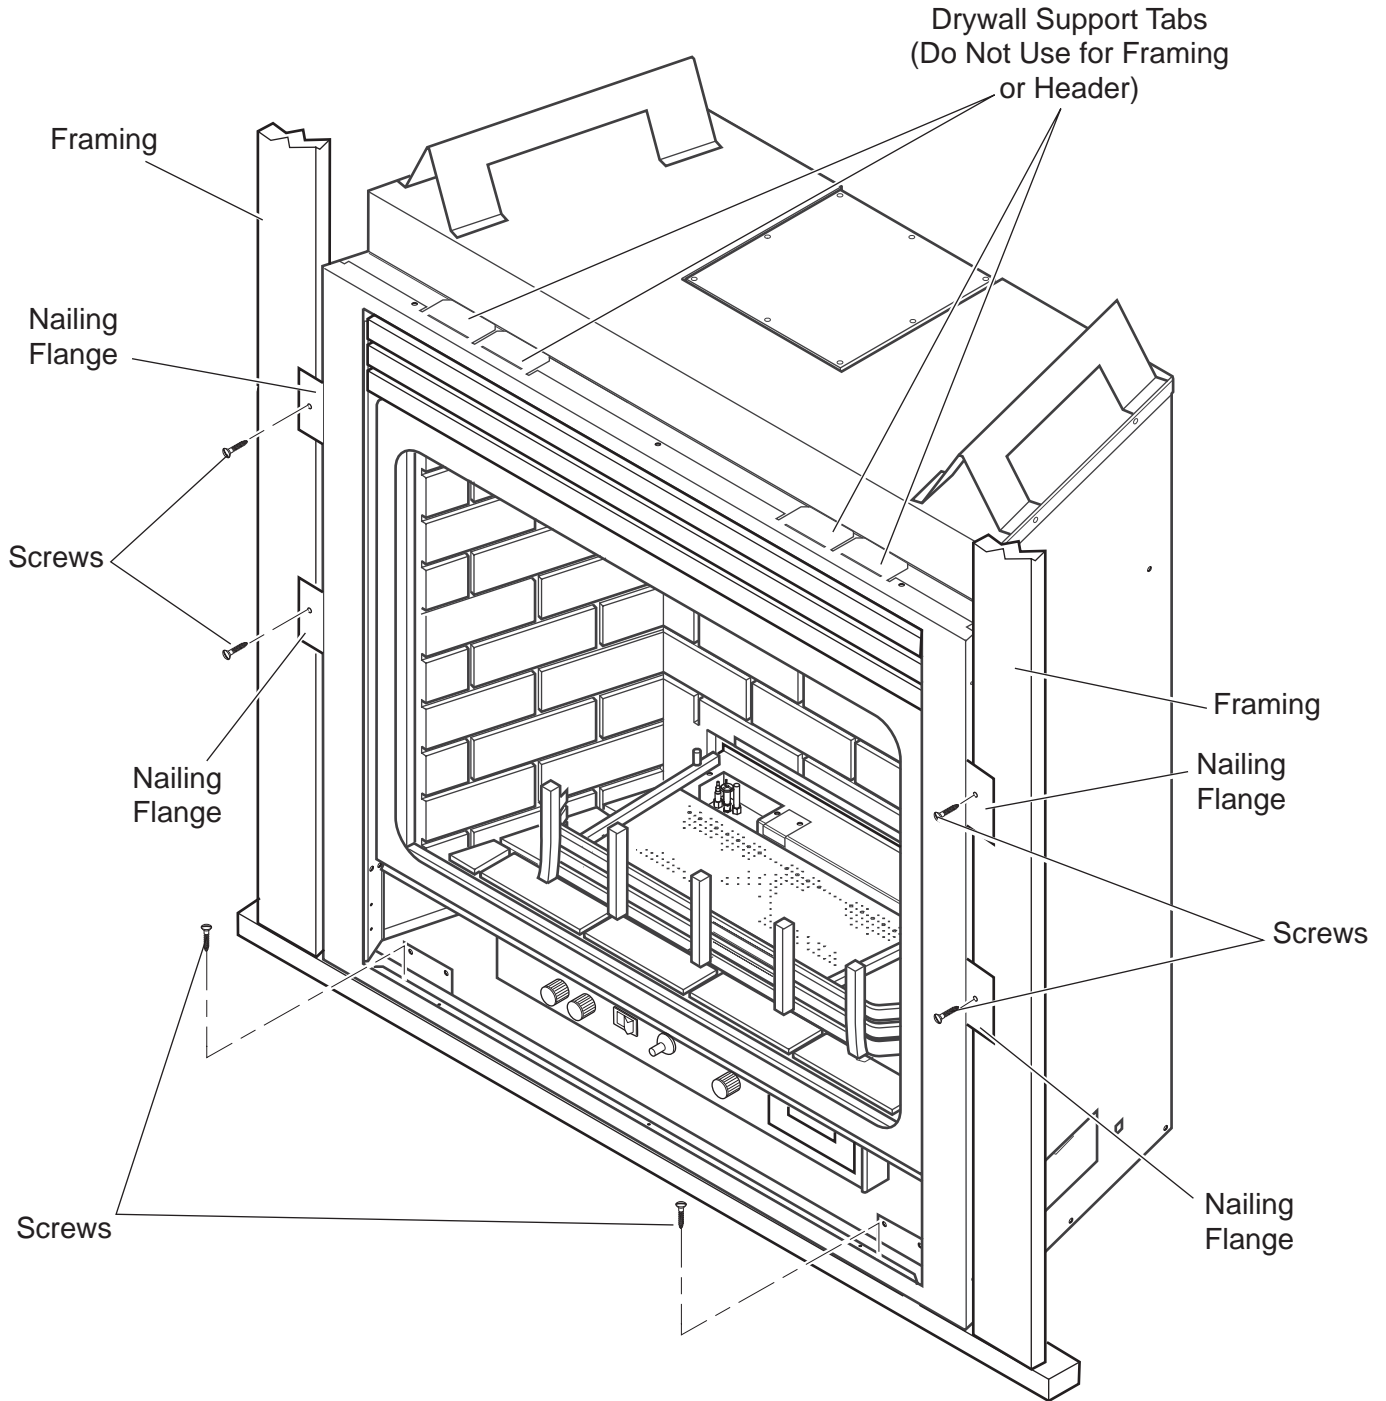

Figure 5 - Securing Fireplace to Floor and Framing Studs
The fireplace must be secured to the floor and/or to framing studs as shown in Figure 5. Use two (2) wood screws or masonry/concrete screws to secure fireplace to the floor. Use four (4) screws to attach fireplace to framing. The side nailing flanges are 1/2" or 5/8" to accommodate different wall thickness.